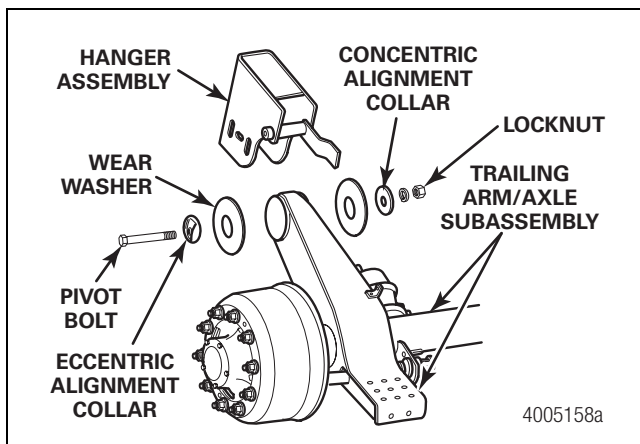

Figure 2
6. Remove the locknut and inner concentric alignment collar from the pivot bolt at both hanger assemblies. Figure 2. Carefully remove the pivot bolts and outer alignment collars from both sides.